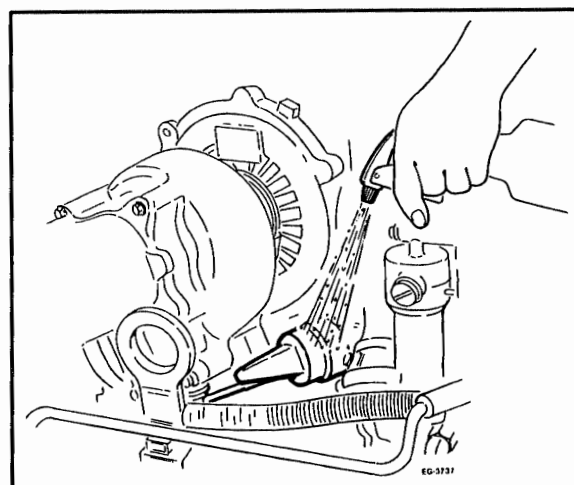

Figure 2.3-18. – Checking Actuator for Leaks
3. Spray leak detector **Figure 2.3-18.** around the actuator housing and slowly apply air pressure to the actuator. **Actuator (shaft) movement (indicated by position of paint mark)** should begin to occur between 17-19 psi.